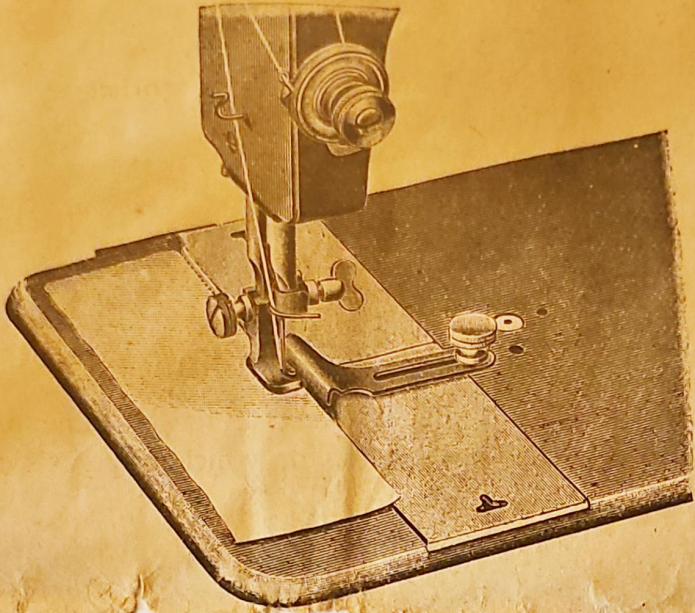

Fig. 13
2. The Straight Guide (Fig. 13).
The straight guide (fig. 13) serves to guide the material in a straight line. The straight guide is fastened to the plate by the guide screw, and the edge parallel with the guide as illustrated in (fig. 13). The guide can be fixed in various distances from the stitch hole. In connection with the straight guide the presser-foot is used. Should a long narrow seam be required, continue to turn down the already started seam, and guide the material by means of the straight guide.